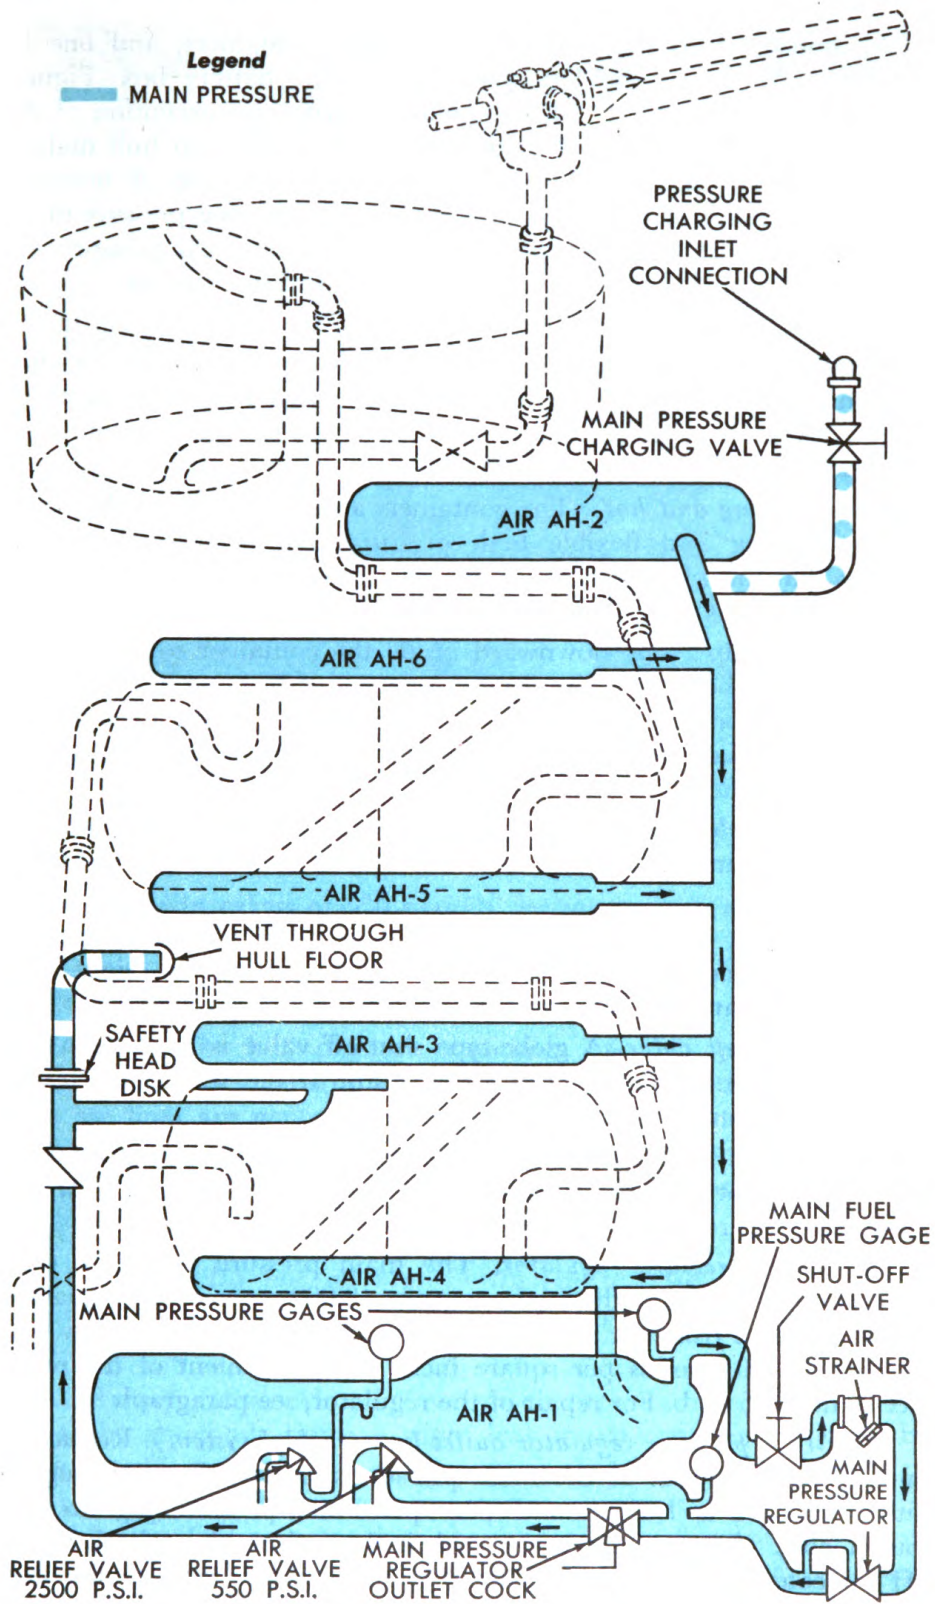

Figure 41—Flow diagram of main pressure system.
There are two pressure systems (figs. 41 and 43). Basically, both systems are made up of the same type of assemblies, namely, pressure containers, high pressure lines, pressure regulators, and lines containing reduced pressure, but details of construction and function are different. The two systems are:
- (1) *Pressure containers.* The pressure containers in the hull (fig. 41) consist of one dumbbell-shaped container (AH-1) located in the right sponson, four small cylindrical containers (AH-3, AH-4, AH-5, and
AH-6) bracketed to the two hull main fuel containers, and one large container (AH-2) in the left sponson over the battery box. Figure 41 shows the general location of all containers with the exception of AH-4 and AH-5 which are located near the hull floor between hull main fuel containers FH-1 and FH-2. All pressure containers are of heavy steel construction designed to withstand the normal operating pressure of 2,000 pounds per square inch. Their function is to store high pressure air or nitrogen until needed to propel the fuel from the flame thrower.
(4) *Main pressure regulator outlet line (to fuel system).* Reduced pressure from the outlet of the main pressure regulator flows through a tee fitted with a 0 to 1,000 pounds per square inch pressure gage to a 1-inch outlet cock (fig. 11). From the cock it flows through a check valve (fig. 41), located on the rear bulkhead, to the pressure inlet of the first hull main fuel container (FH-1). The regulator outlet line is also connected to an air relief valve on the right sponson shelf which automatically dis-